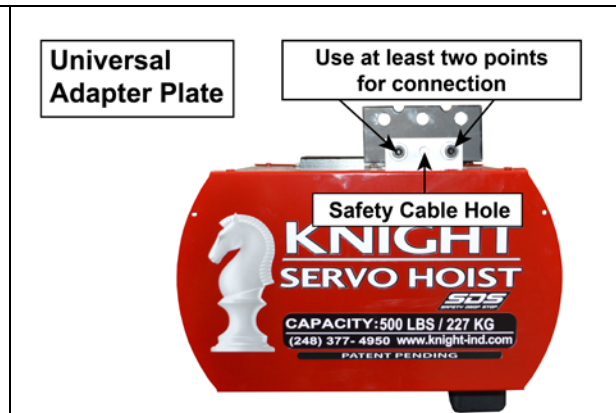

Figure 2-3
CAUTION Ensure that there is a (2) two-point connection when using the universal adapter plate to hang the hoist from a structure. (Refer to Figure 2-3)
- 2) Insert the (2) two ½-13x1¾" (grade 8 or better) socket head cap screws (SHCS) and (2) two washers.
The U-bolt rests on the "dead" (shorter) end of the cable. (Refer to Figure 2-3)